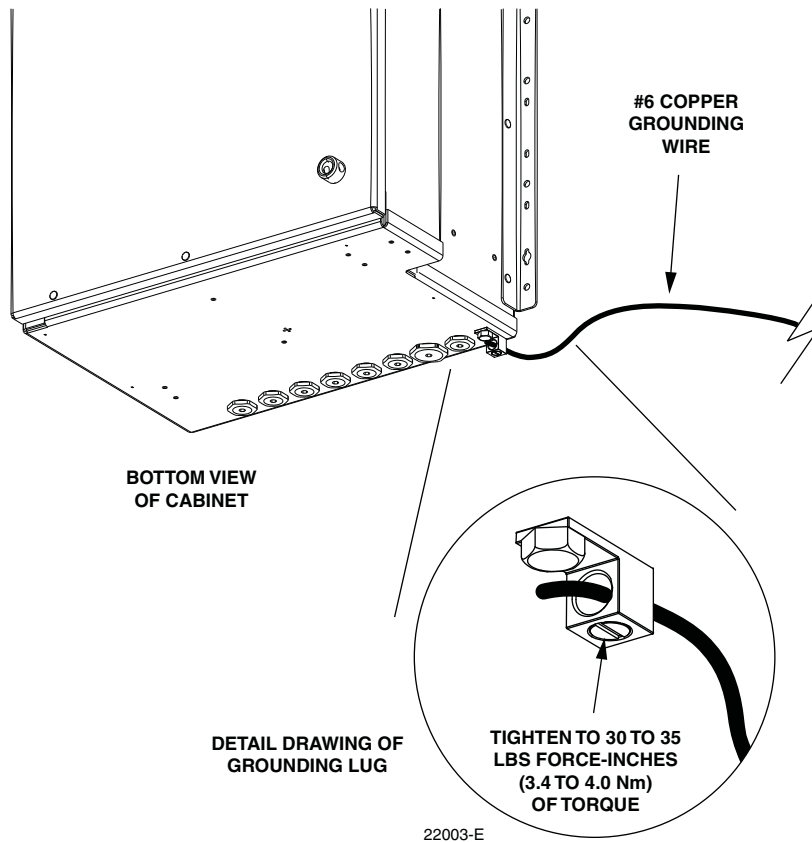

Figure 10. Grounding Wire Connection To Cabinet
1. Locate the cabinet grounding lug which is mounted on the underside of the cabinet as shown in Figure 10.